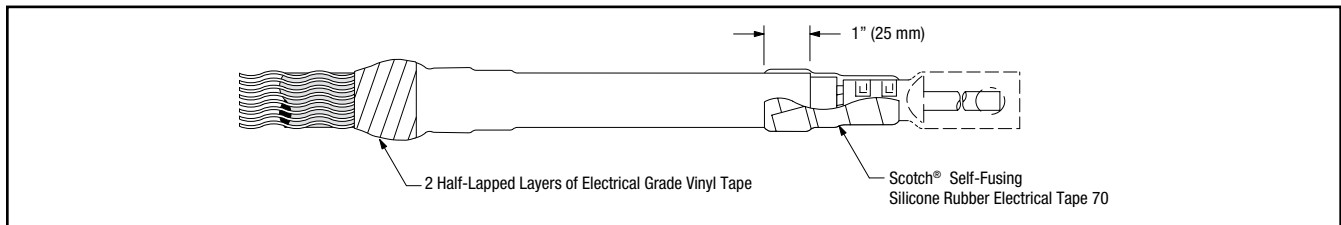

Figure 23
- f. Wrap two highly stretched half-lapped layers of electrical grade vinyl tape around mastic seal (Figure 23). Overlap the edges of the mastic seal by 1/2" (13 mm) minimum.